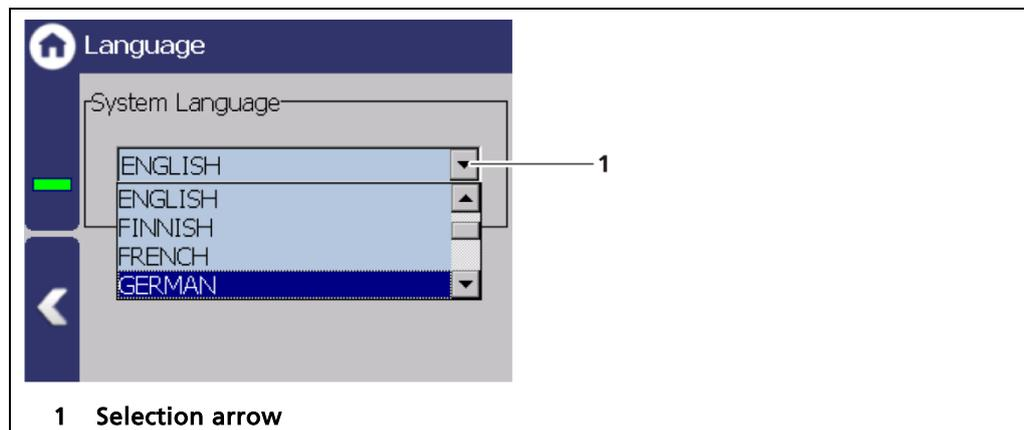

Fig. 52 Language
1. Click on the selection arrow (Fig. 52, item 1) and select a language.